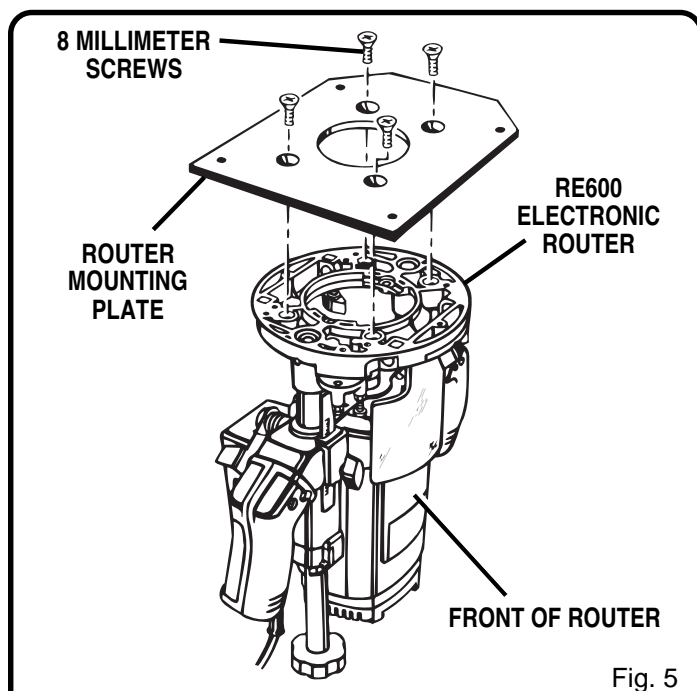

Fig. 5
See Figures 5 and 6.
2. Figure 5 illustrates the correct orientation of parts and pieces for mounting your router to its mounting plate.
4. The switch handle of router should be facing the squared end of mounting plate. See Figure 5.